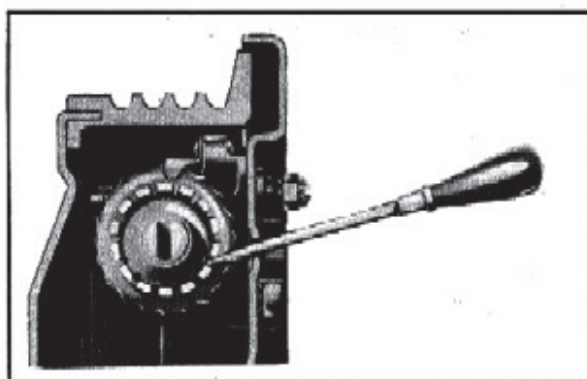

*Fig. 50—Adjusting Brakes—½ Ton*
3. Remove adjusting hole covers from flange plate on all four wheels. Expand brake shoes by turning adjusting screw until a light drag is felt on the brake drum (fig. 50), then back off adjusting screw 14 notches and replace adjusting hole covers.